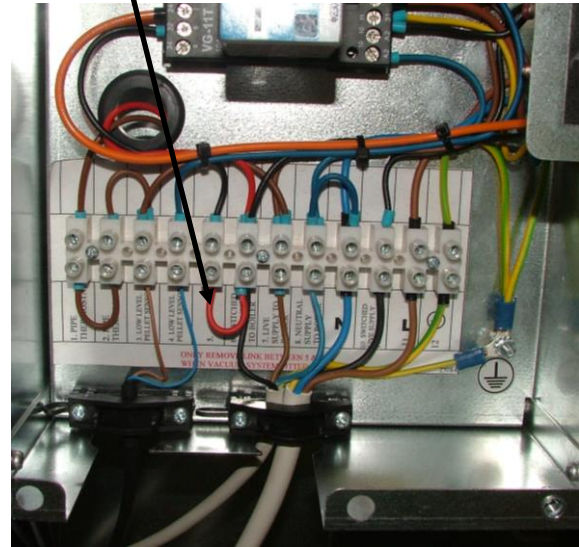

Figure 8-2. Wiring centre with cover removed
- **Remove the factory-fitted link from between terminals 5 and 6.** Refer to Figure 8-2.